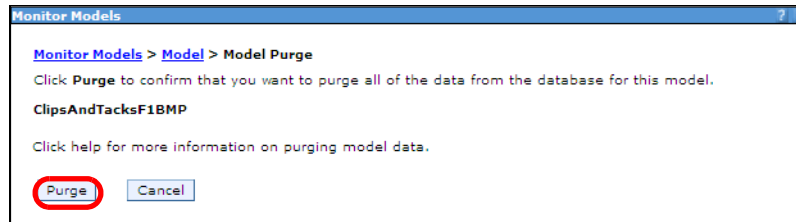

Figure 14-54 Monitor model undeployment: Confirm purge command
- ▶ On the following panel, click *Purge* to confirm (Figure 14-54).